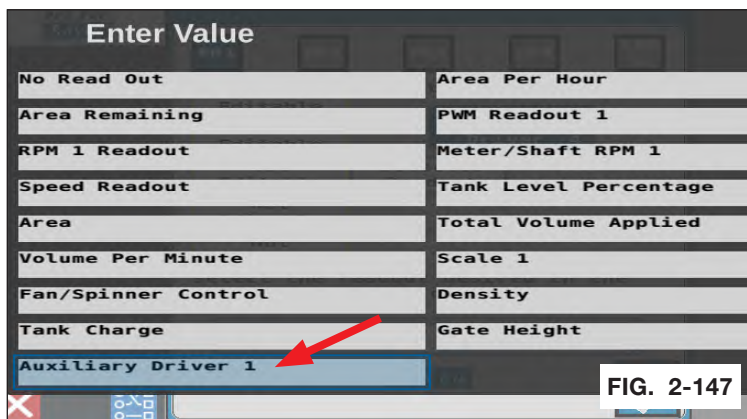

FIG. 2-147
- Select “Auxiliary Driver 1” from the list. (FIG. 2-147)